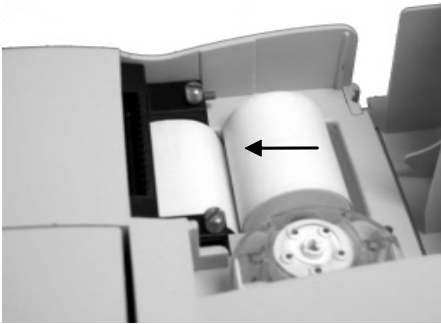

Fig. 2-11 Inserting Printer Paper
- With the OPTI CCA-TS switched on, thread the paper into the feeder slot, as shown in the diagram, on the analyzer (Fig. 2-11).